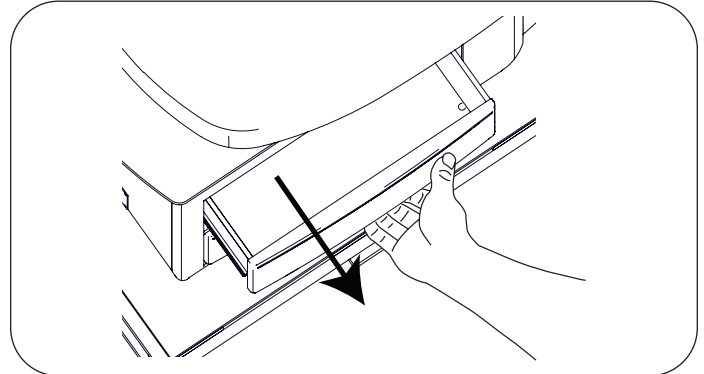

Figure 16. Pull Top Rear Pass-through Drawer Open
17. Prepare the rear of table for lifting by pulling top rear pass-through drawer to one side (Figure 16).